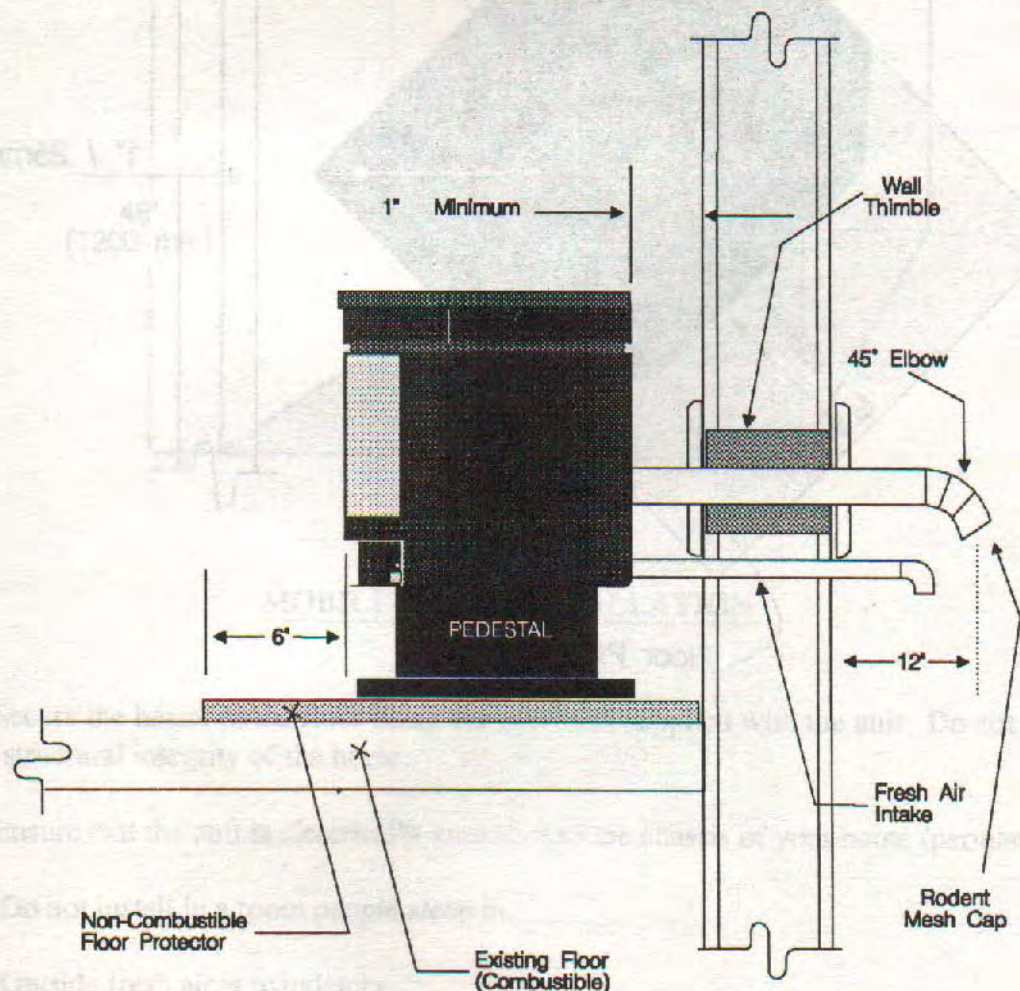

Fig. 5
1. Choose a location for your heater that meets the requirements stated in this manual and allow the installation of the stove with the least amount of interference with the house framing, plumbing, wiring, etc. See figure 5 and 5A.